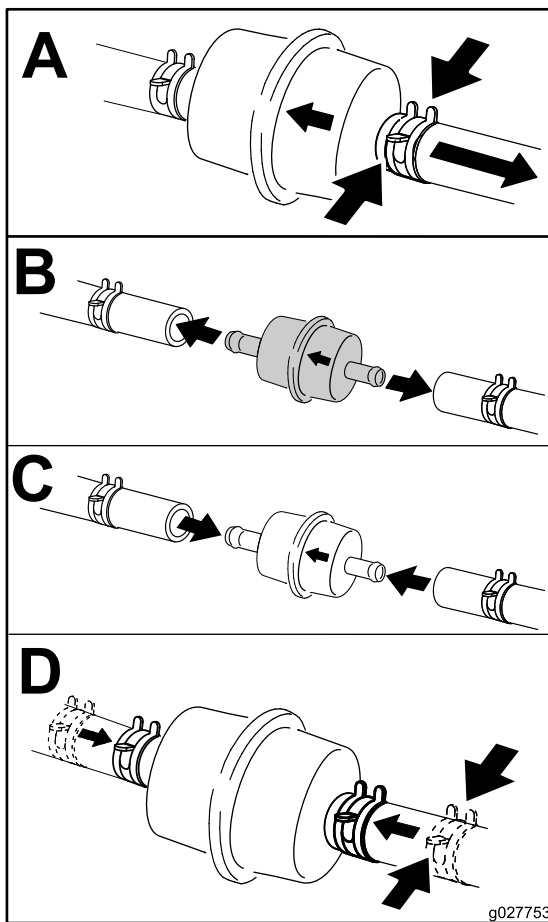

Figure 53
5. Replace the fuel filter (Figure 53).